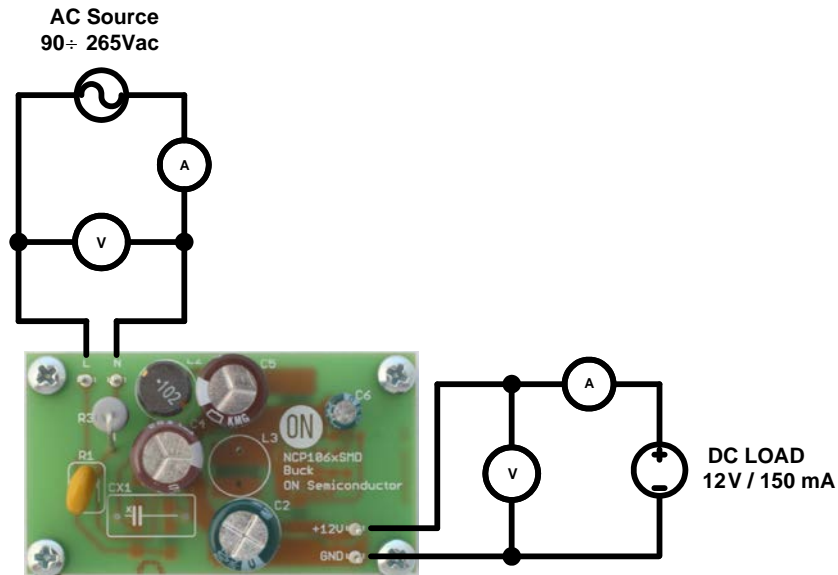

Figure 1: Test Setup for Buck Converter
1. Connect the test setup as shown in Figure 1.